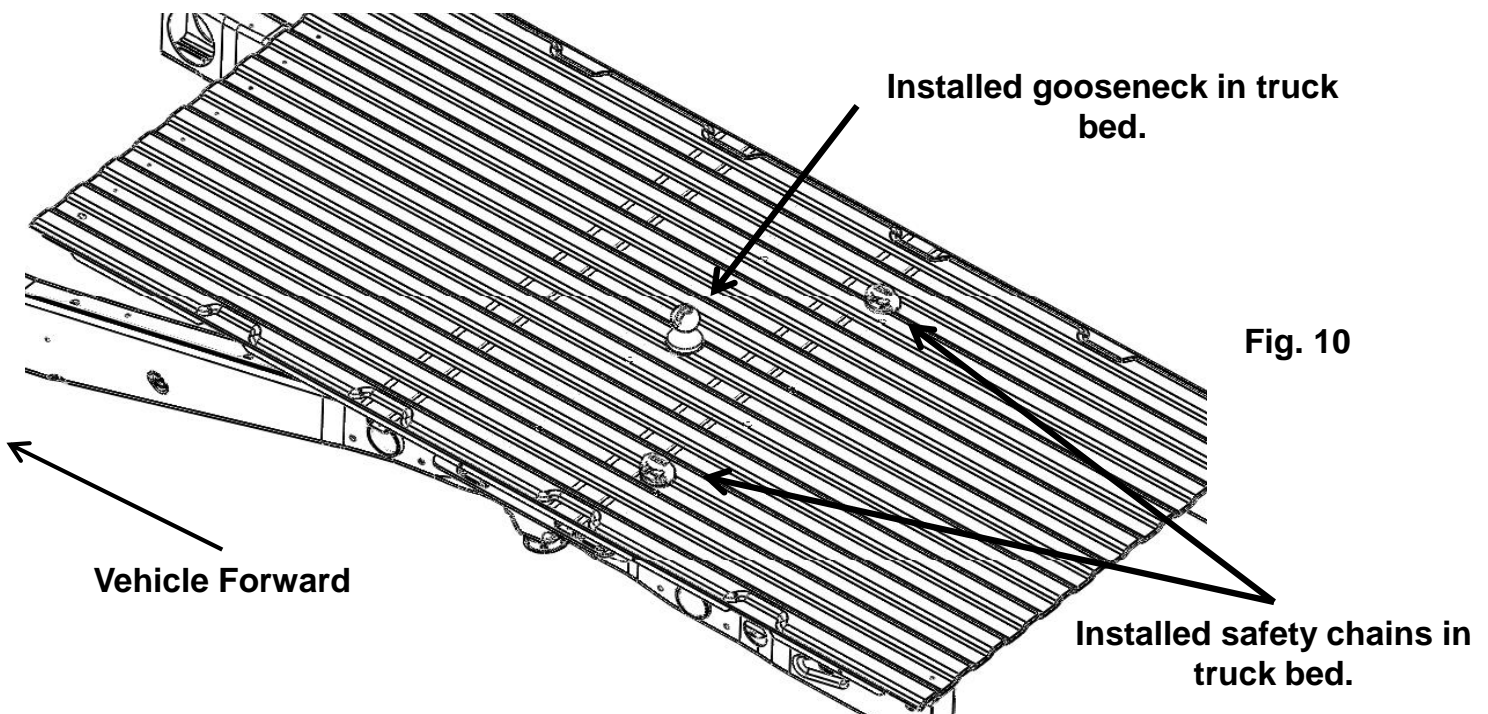

Fig. 10
6. Once the top of the gooseneck receiver tube is located in the hole (See figure 10), then tighten the hardware to a torque of 180 ft/lbs, then the safety chains holder (see instruction manual for installation instructions) and 2-5/16" hitch ball may be installed.